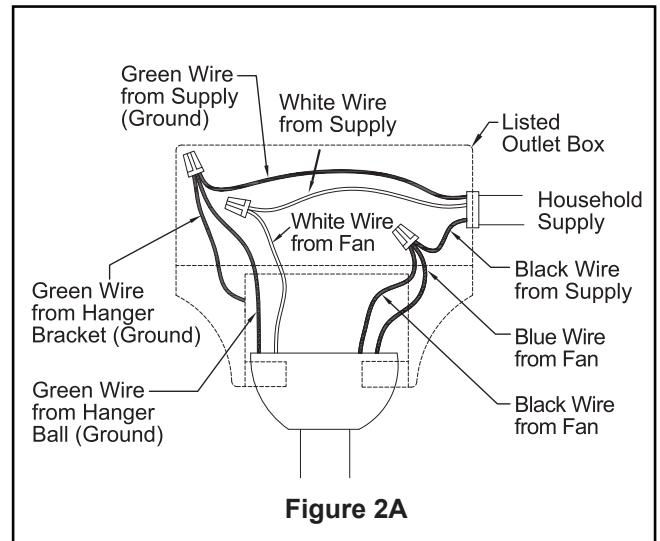

Figure 2A
1. Connect the green grounding lead from the downrod and the green grounding lead from the hanger bracket to the supply grounding conductor (this may be a bare wire or wire with green colored insulation). Securely connect wires with wire connector. Securely connect the white fan motor wire to the white supply (neutral) wire using wire connector. Securely connect the black fan motor wire and blue wire to the black supply wire using wire connector. (Figure 2A)
- 2A. Install the fan pull chain. (Figure 2A)